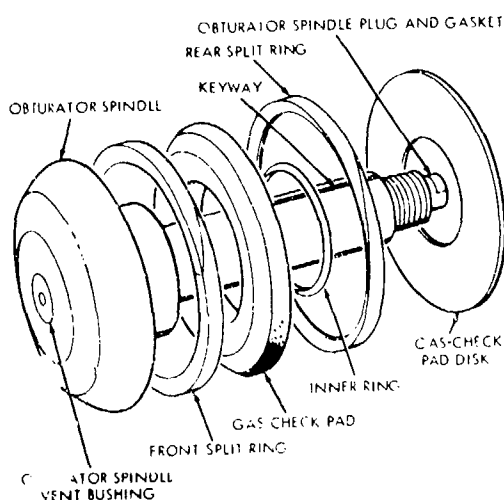

Figure 2-26. Obturator assembly.
b. The interrupted-screw breechblock and the stepped-thread, interrupted-screw breechblock (a(2) above) each has an obturator assembly (fig 2-26). This assembly consists of a mushroom head